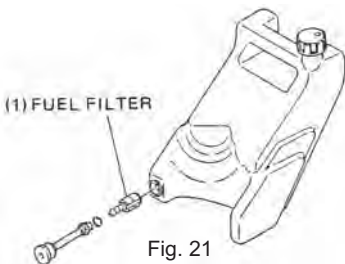

Fig. 21
- a. Clean as necessary. After all fuel drained from tank, gently pry out fuel filter with minus driver and wash it thoroughly in gasoline. After washing push it into the same place as before. (Fig.21)